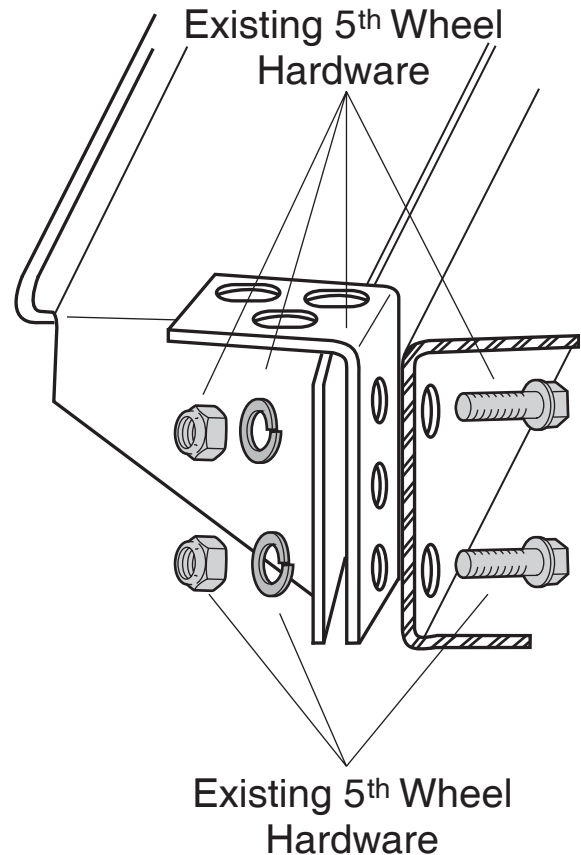

Figure 2
1. Remove the rear 5th wheel hitch bolts that go through the web of the frame (Figure 2). Keep for later use.